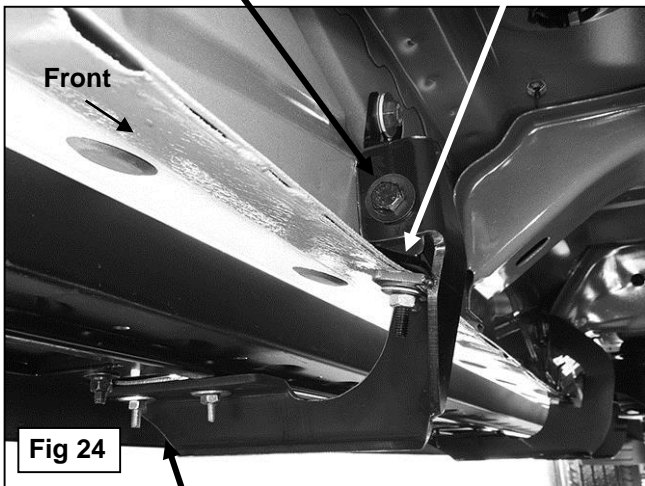

Fig 24
11. Line up the side tab on the Lower Bracket with the threaded hole in the side of the Upper Bracket. Attach the Lower Bracket to the Upper Bracket with (1) 8mm x 25mm Hex Bolt, (1) 8mm Lock Washer and (1) 8mm Flat Washer, (**Figure 24**). Leave loose at this time.
12. Repeat **Steps 1—3** for the (3) remaining passenger side Bracket installations. **NOTE:** Cradles on Brackets installed on passenger side will face forward.